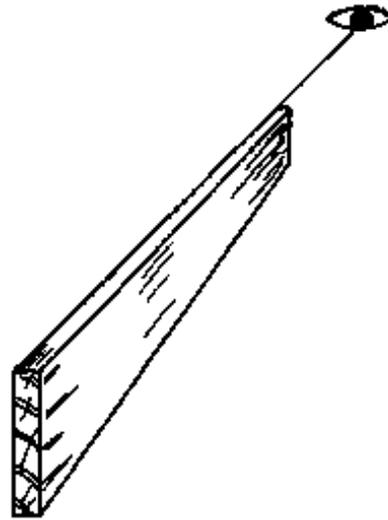

Fig. 3a
**For long boards you can sight along the boards with one eye closed, to see the places which are uneven (Fig. 3a).**